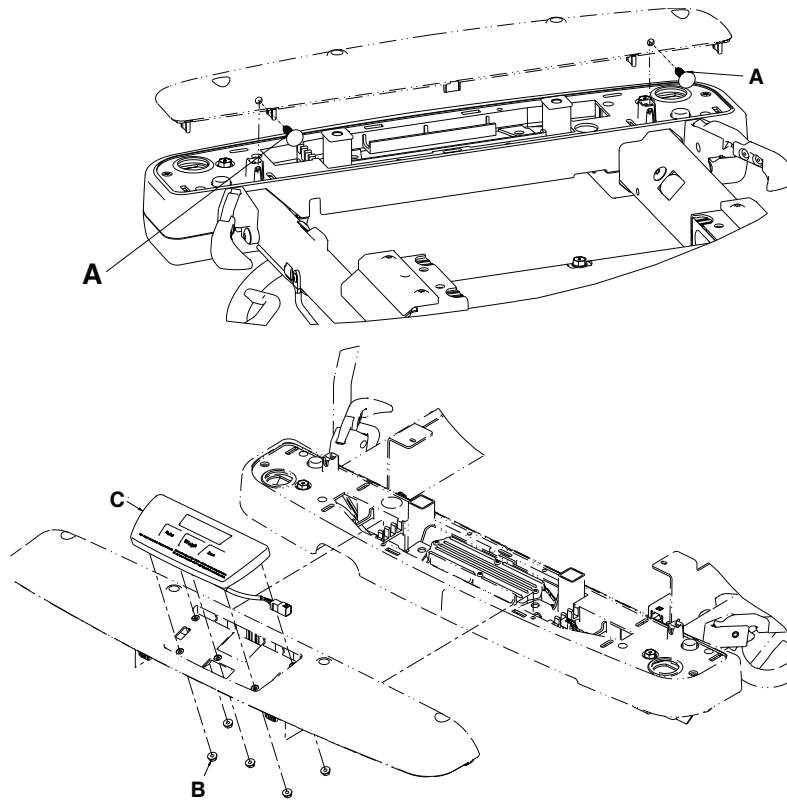

Figure 36 – Scale keypad and display replacement
3. Using a slotted screwdriver and needle nose pliers, remove the two panel fasteners (A) that secure the foot end cover to the litter (Figure 36). Save the panel fasteners.